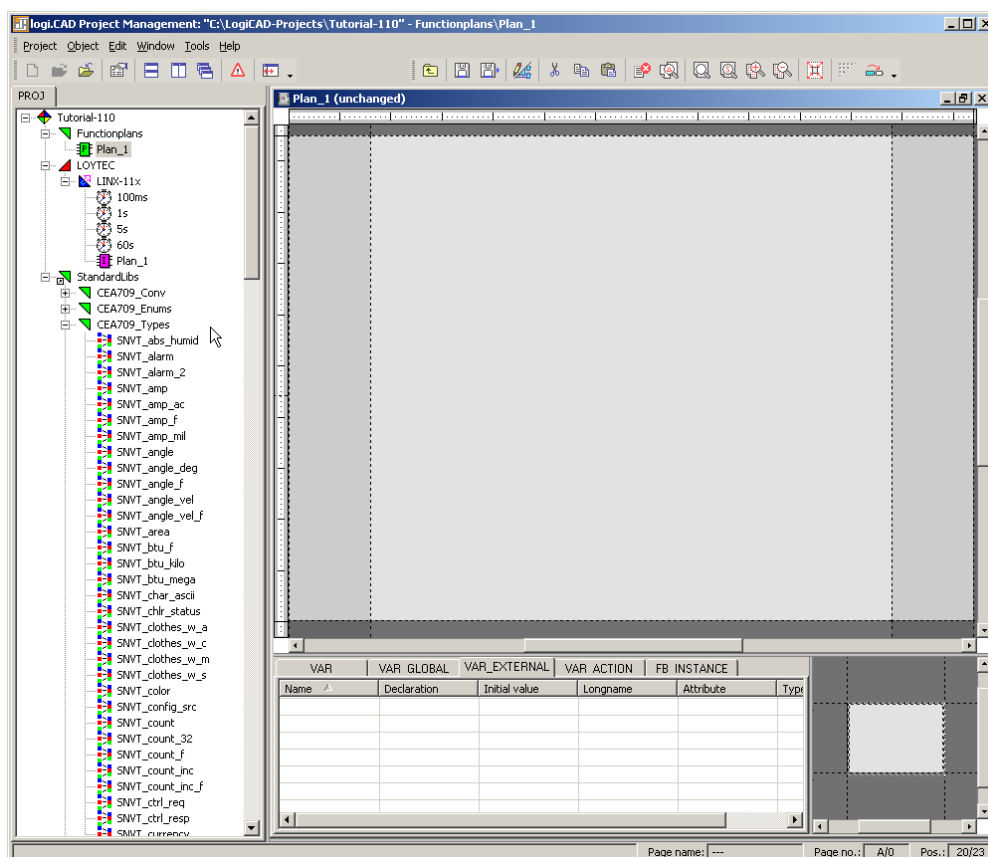

Figure 37: Edit Plan_1
- As shown in Figure 37 below, expand the tree element **Functionplans** and double click **Plan_1** in order to start editing the plan.